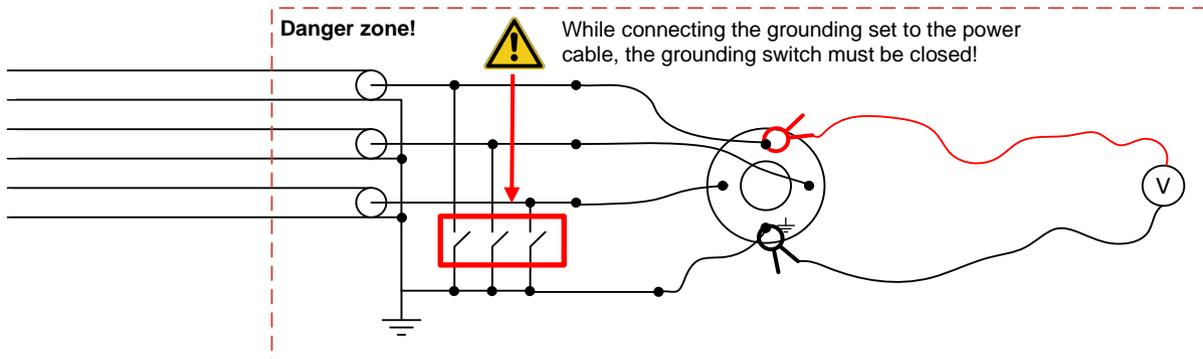

Figure 5: Measuring the coupled voltage with a voltmeter.
- ▶ Set up a voltmeter according to Figure 5. The Kelvin clamps on the grounding box must be connected to the phase where the highest circular current has been measured and ground.
In the example in Figure 5 the Voltmeter is connected to L1 and ground.
5. Connect the voltmeter to the CP GB1 as shown in Figure 5.